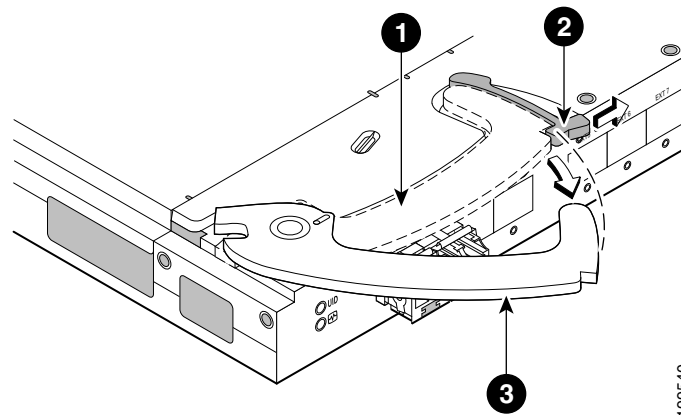

Figure 4 Releasing the installation handle
3. Press the handle latch to release the installation handle (see Figure 4).